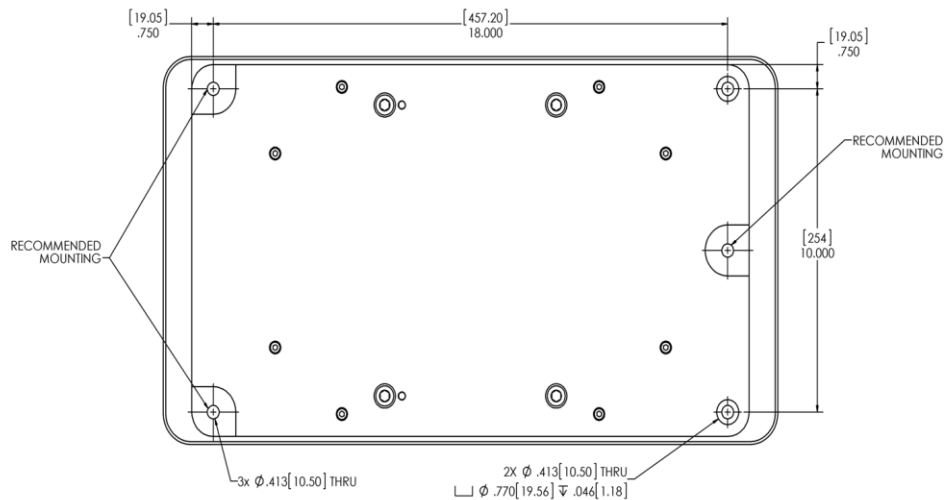

Figure 5: AFD90-3 Mounting Bracket Hole Locations
The AFD90-3 is designed for mounting on a stationary fixture. It has five (5) $\text{\O}0.41$ " ($\text{\O}10.5$ mm) mounting holes spaced as shown in Figure 5; the three holes denoted by "recommended mounting" should be used for optimal mating between the AFD mounting bracket and the stationary fixture. This setup will help prevent the carriage from binding and effecting the output force.